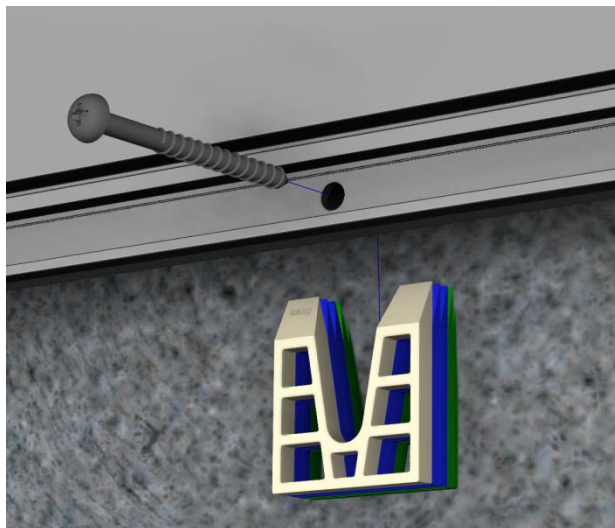

Figure 5 – Packing and fixing
5. Fix the Skyhatch to the kerb using the No10 x 2½” woodscrews and horseshoe packers supplied as per *Figure 5*. Fixings should be predrilled 3mm to a depth of 50mm. Use the packers to fill the space between the external kerb and inside of the rooflight. Care should be taken when tightening the fixings to ensure the frame does not distort.